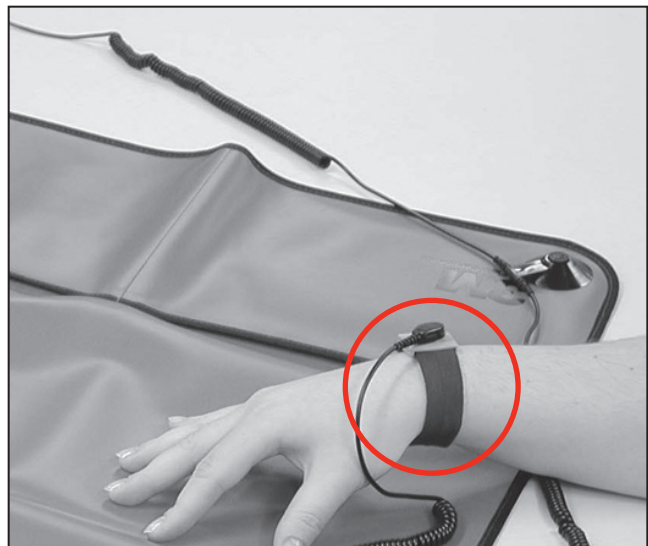

Figure 6. Attach the wire leads to the wristband by means of the snap.
STEP 5. Slip on the elastic wrist strap and attach the band so it fits snugly but comfortably. Attach the longer of the two wire leads of the ground cord assembly to the wristband with the small plastic snap. See Figure 6.